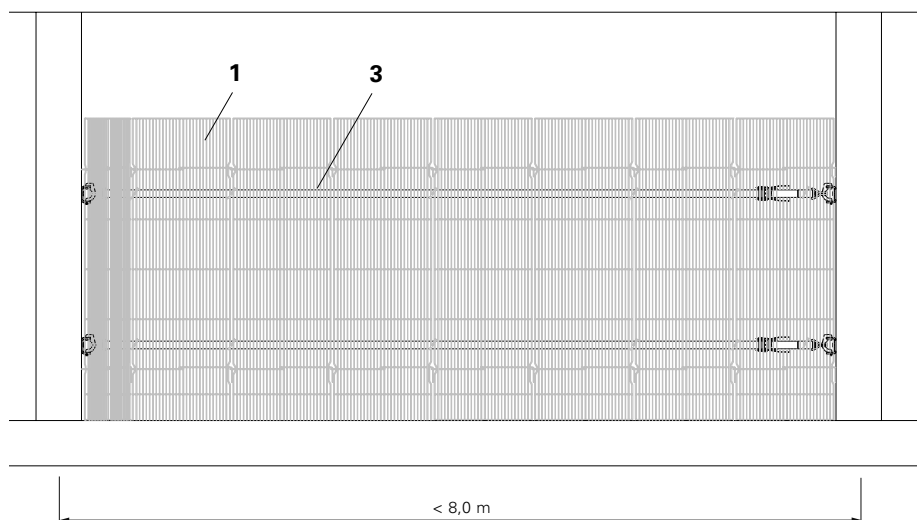

Fig. A2.10
5. Lean Fold Mesh PFR (1) against the tension belt and fix by means of Cable Ties PCT (3). (Fig. A2.10)